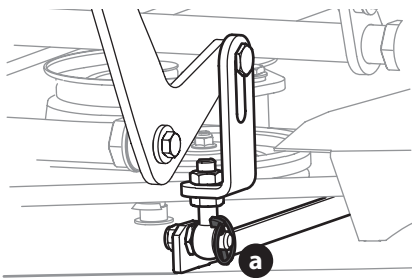

Fig. 58
- Remove the four lynch pins (a) that secure the deck to the deck lift assembly (Fig. 58).